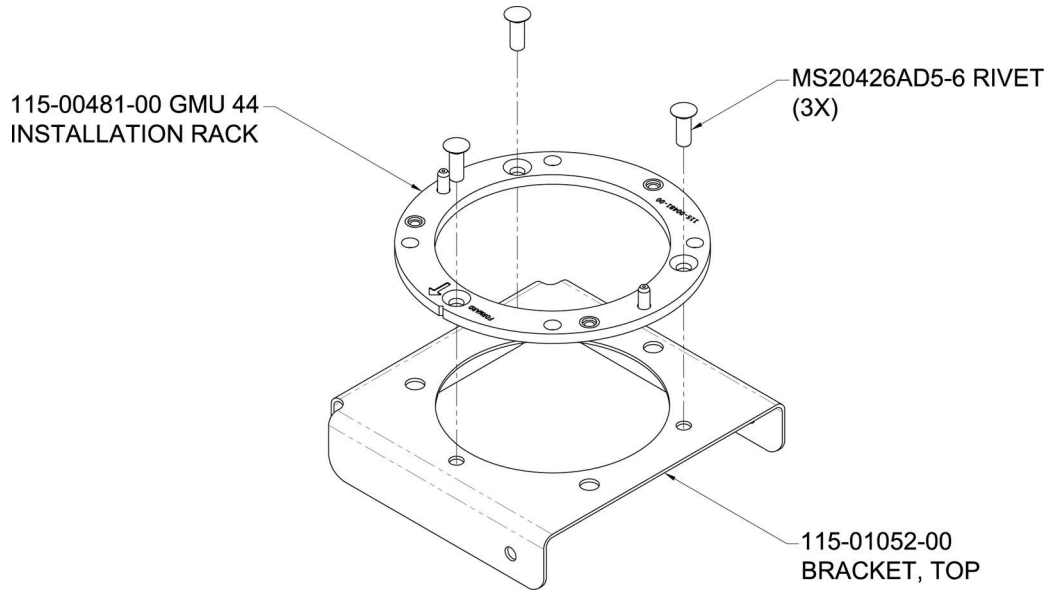

Figure B-4 Lancair IV/IV-P GMU 22 Mounting Bracket
The RV-7/9 GMU 22 Mounting Bracket can be installed on the F-714 aft deck forward of the horizontal stabilizer. Before installing the mounting bracket on the aft deck, the GMU 22 mounting plate (115-00481-X0) should be riveted to the mounting bracket. When riveting the mounting plate to the bracket, make sure the “Forward” arrow is pointing towards the front of the airplane and is parallel to the longitudinal axis of the aircraft. As shown in Figure B-4, the mounting plate should be attached to the bracket with the supplied AN426AD5-6 rivets.
1. Rivet the GMU 22 Installation Rack (115-00481-X0) to the Top Bracket Assembly (115-01052-00) as shown in Figure B-4.